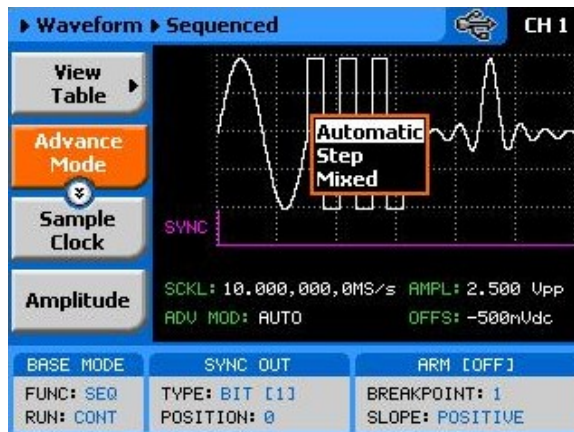

Figure 3-20, Sequence Advance Options
1. Refer to Figure 3-20 and select the Advance Mode with the appropriate soft key. The advance mode options, as shown in Figure 3-20 will display. Use the dial or arrow keys to scroll down to the required mode and press Enter to lock in the selected mode.
The operating mode of the instrument, as selected from the Run Modes menu, affects the way that the 2572 lets you access the sequence advance mode parameter. If you are in continuous mode, as shown in Figure 3-20, you can select one of: AUTO, STEP, or MIXED. If you already selected the triggered run mode, you'll be able to select from AUTO, or SINGLE only as advance modes.